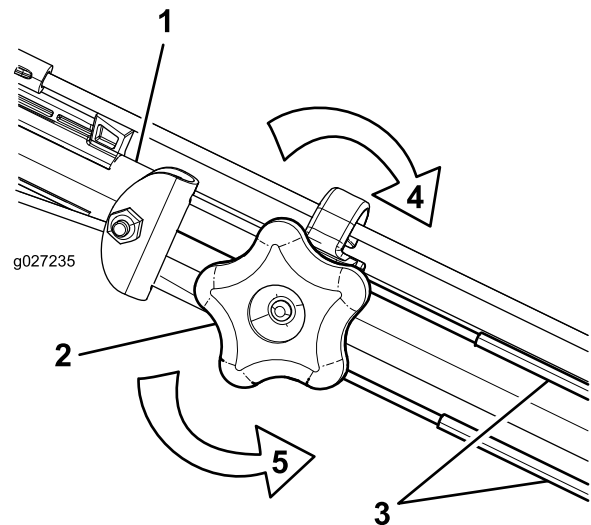

Figure 24
1. Turn the adjustment knob counterclockwise to loosen the cable adjustment (Figure 24).
2. Adjust the tension on the cable (Figure 24) by pulling it back or pushing it forward and holding that position.